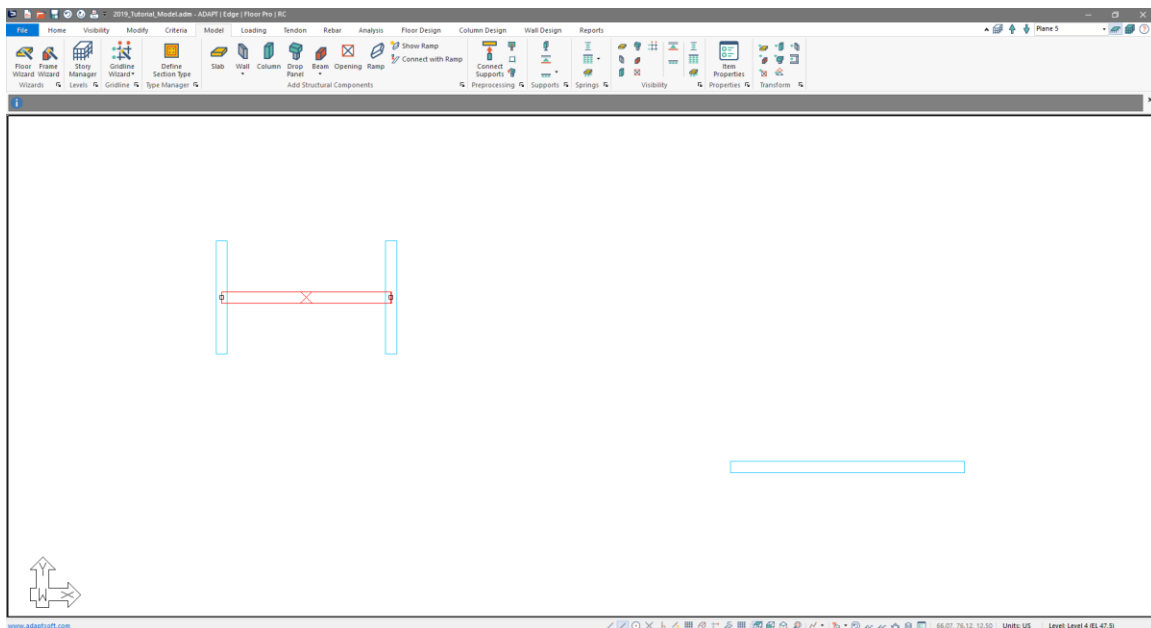

Figure 4-17
- The user should now see a screen similar to that shown in **FIGURE 4-17**.